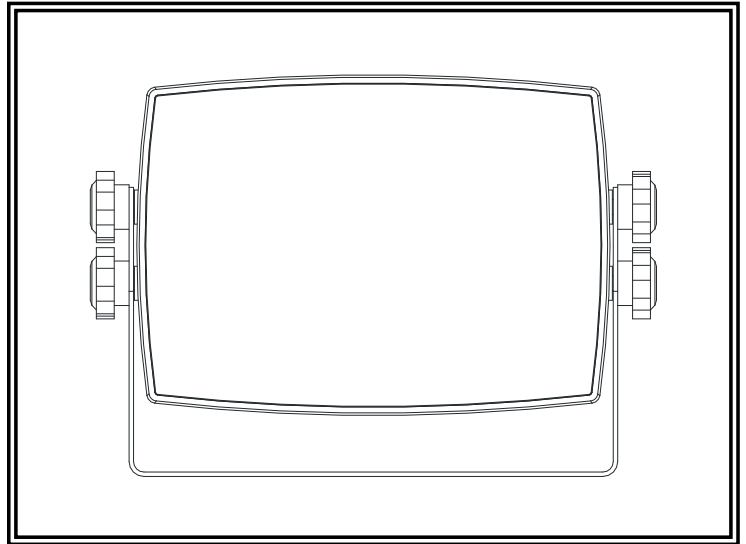

Figure 4
2. Fix the monitor to the U-support bracket with angle adjustment screws and adjust the view angle of the monitor (Figure 4)